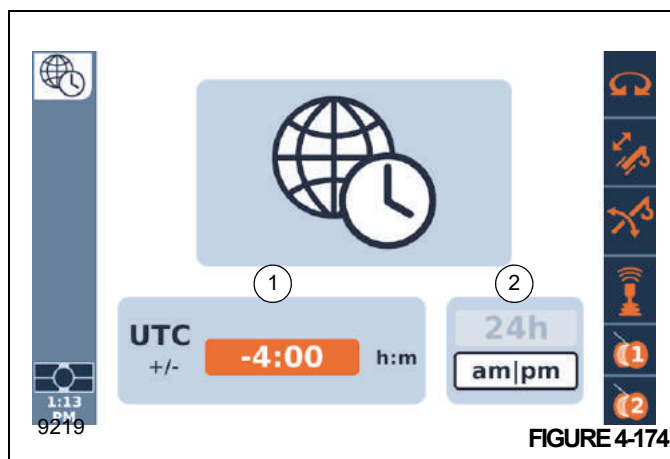

FIGURE 4-174
The Time Set function screen (Figure 4-174) allows the operator to set the time and the time format that is displayed on the ODM and RDM screens.
1. Using the Jog Dial or Arrow Buttons on the Navigation Control Pad, select the UTC Offset field (1, Figure 4-174).
5. Using the Jog Dial or Arrow Buttons, select the Time Format field (2, Figure 4-174).